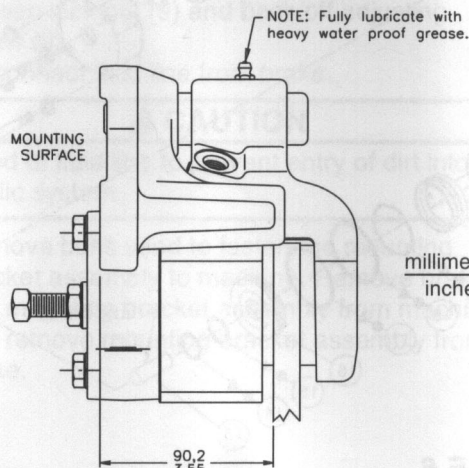
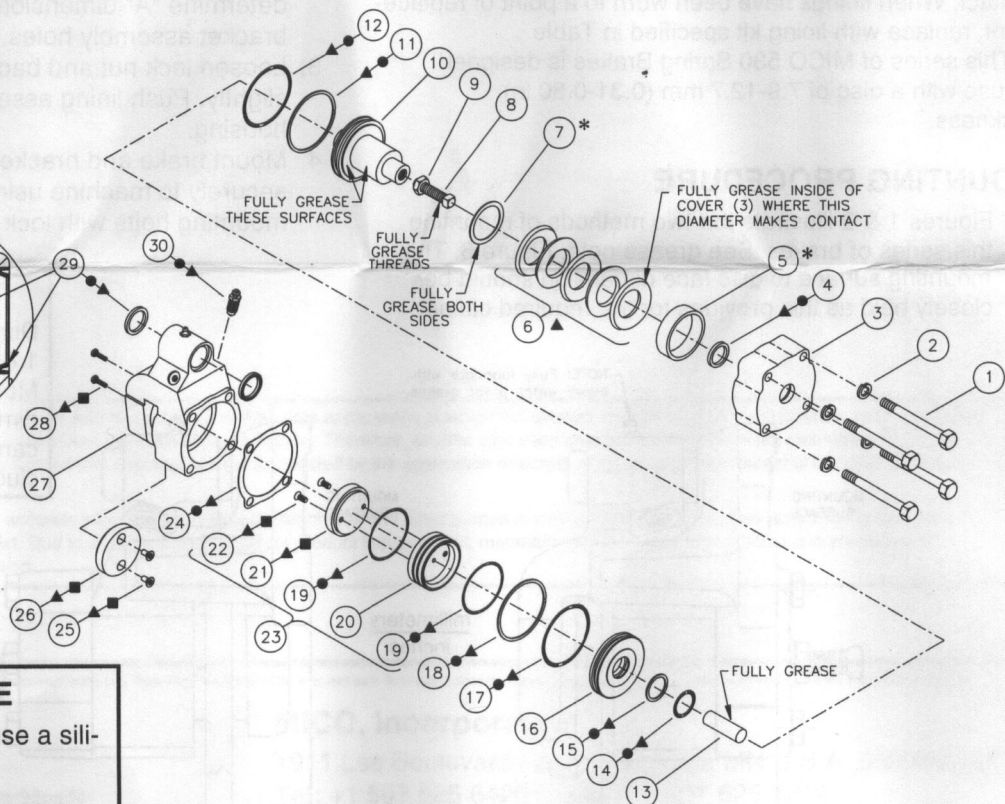
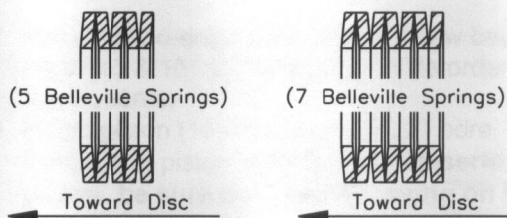

FIGURE 1
FIGURE 6
FIGURE 7
* **Belleville Springs are pre-greased. DO NOT remove grease from springs (See GREASE NOTE in Figure 6).**
- Figures 1 & 2 illustrate the two methods of mounting this series of brakes. See grease note, Figure 6. The mounting surface to disc face dimension should be closely held as this provides for the required caliper
Dimensions shown in Figures 1 & 2 are typical for all models. Mounting surface to disc face dimension typical of both style carriers. Mounting bolts not included.
This literature services various models in this brake series. The components shown in Figure 6 may appear different than what is found in your brake.
8. Remove cap screws (1), lock washers (2), cover (3) and gasket (24). Using a thin blade tool, remove seal (4) from cover.
9. Remove spacer (5), belleville springs (6) and washer (7). Note the stacking sequence of belleville springs. **NOTE: Not all models use spacer (5), or washer (7). Some models use two washers (7).**
10. Remove piston (10) from housing (27) bore. Remove o-ring (12) and back-up ring (11) from piston. Push rod (13) should also come out with piston.
11. Remove piston (16) from housing (27) bore. Remove o-rings (14 & 17) and back-up rings (15 & 18) from piston.
12. Remove lining assembly (23) from housing (27) bore. Holding assembly on a flat surface, separate lining (21) and piston (20) by removing flat head screws (22). Remove o-rings (19) from piston (20).
13. Loosen vise jaws and rotate brake so that disc clearance slot is facing upward. Remove pan head screws (28), lining (26) and bushings (25) from housing (27).
15. Clean all parts and housing bore thoroughly with clean type fluid used in the system and keep free of all contaminants, dirt, and debris. **NOTE: Use a heavy, waterproof grease to lubricate surfaces as shown in Figure 6. (See GREASE NOTE)**
16. Install new lining (26) in housing (27) using new bushings (25) and new pan head screws (28). Torque screws (28) 2.5-3.2 N·m (22-28 lb-in).
17. Install new lining (21) on piston (20) using new flat head screws (22). Torque screws (22) 2.7-3.4 N·m (24-30 lb-in). Install new o-rings (19) on piston (20) and insert lining assembly (23) into housing (27) bore.
18. Carefully install two new seals (29) in housing (27). Note direction of seals (29). Cup side of seals (29) face outward. **NO NOT LUBRICATE SEALS (29).**
19. Install new bleeder screw (30). Torque bleeder screw 12.2-20.3 N·m (9-15 lb·ft).
20. Install new o-rings (14 & 17) and new back-up rings (15 & 18) on piston (16). Note order of components.
21. Install piston (16) into housing (27) bore. Note direction of piston. **NOTE: When inserting piston, be sure not to pinch o-ring on inlet ports.**
22. Install new back-up ring (11) and new o-ring (12) on piston (10). Note order of components. Install push rod (13) in bore of piston. Install piston into housing (27) bore.
23. Fully lubricate threads of adjusting screw (8) and lock nut (9) and install into piston (10).
24. Install washer (7), spacer (5) and belleville springs (6) over end of piston (9). Follow the stacking sequence shown in Figure 7. Not all models use spacer (5), or washer (7). Some models use two washers (7). **NOTE: If seal kit is being installed use existing belleville springs after completely lubricating with a light coat of heavy, water proof grease (See Grease Note, Figure 6). If repair kit is being installed use new belleville springs, already greased. Note that the belleville spring nearest the cover will contact the cover with its outside diameter.**
25. Install new seal (4) in cover (3).
26. Install new gasket (24), cover (3), lock washers (2) and cap screws (1). Torque cap screws 29.8-36.6 N·m (22-27 lb·ft).
(Refer to Figure 6)
14. Clean all parts and housing bore thoroughly with clean type fluid used in the system and keep free of all contaminants, dirt, and debris. **NOTE: Use a heavy, waterproof grease to lubricate surfaces as shown in Figure 6. (See GREASE NOTE)**
15. Carefully install two new seals (29) in housing (27). Note direction of seals (29). Cup side of seals (29) face outward. **DO NOT LUBRICATE SEALS (29).**
16. Install new o-rings (19) on lining assembly (23). Install lining assembly (23) in housing (27) bore.
17. Install new o-rings (14 & 17) and new back-up rings (15 & 18) on piston (16). Note order of components.
18. Install piston (16) into housing (27) bore. Note direction of piston. **NOTE: When inserting piston, be sure not to pinch o-ring on inlet ports.**
19. Install new back-up ring (11) and new o-ring (12) on piston (10). Note order of components. Install push rod (13) in bore of piston. Install piston into housing (27) bore.
20. Fully lubricate threads of adjusting screw (8) and lock nut (9) and install into piston (10).